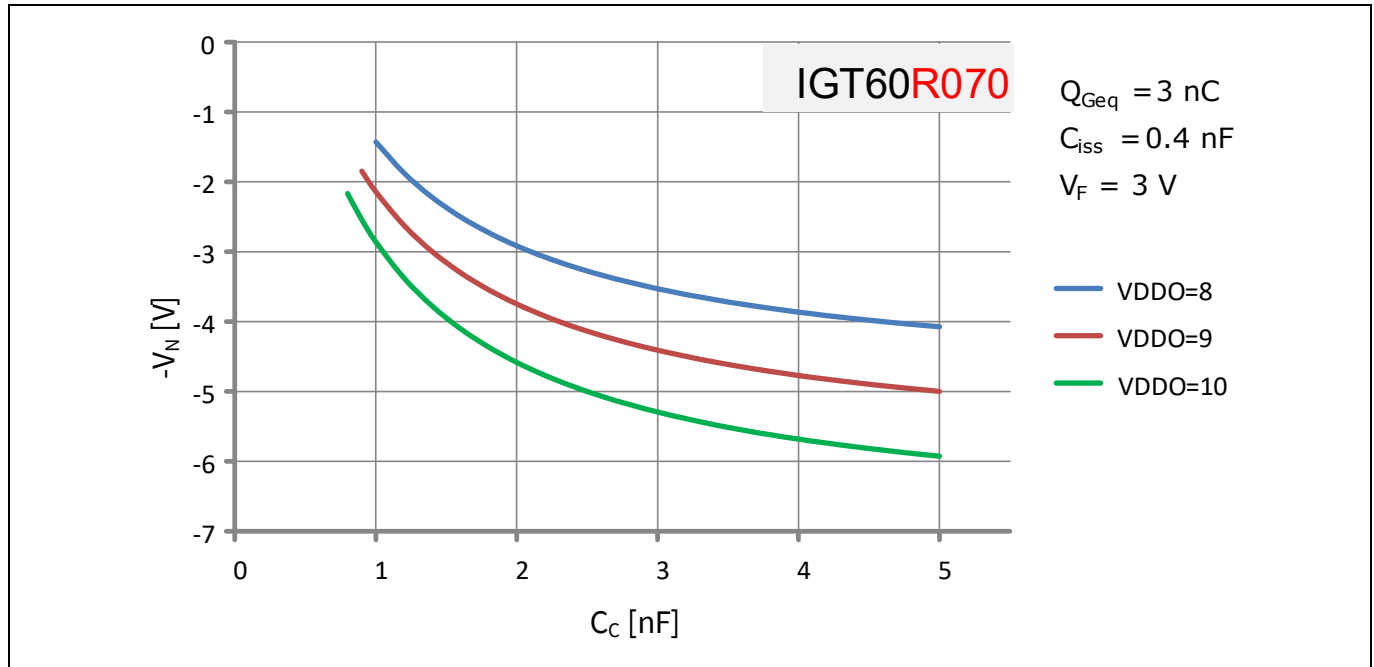

**Figure 17** Typical application circuit for 2.5 kW GaN "totem-pole" PFC
**Figure 17** depicts a typical application for CoolGaN™ switches in a so-called "totem-pole" PFC. It consists of a 70 mΩ GaN half-bridge controlled by two GaN EiceDRIVERS; the diode functions indicated in the power path are usually realized with low- $R_{DS(on)}$  MOSFETs operating as synchronous rectifiers. 2.5 kW of power can be handled at very high efficiency (above 99%).
The topology in **Figure 17** differs from standard PFCs mainly by the fact that both GaN transistors are used alternately in switch and diode operation mode, depending on the polarity of the input voltage. This eliminates the need for rectifying the input voltage and therefore avoids a significant loss contributor. Such a topology cannot be realized with MOS-switches due to their inherent body diode and the associated large recovery charge.
The application circuit of Figure 17 uses different gate resistors for the "on" and "off" gate loops by introducing resistor  $R_{off}$  and (Schottky-)diode SD. The values of  $R_{tr}$  and  $R_{off}$  define the respective peak gate currents and thus switching times according to Equation (2.2). Due to the basic trade-off between switching time and inductive voltage overshoot, parasitic power and gate loop inductances have a strong influence on the optimum values of the gate resistors. For a 70 mΩ CoolGaN™ switch they are typically in the 5 to 20 Ω range for  $R_{tr}$ , whereas 2 to 5 Ω are a reasonable choice for  $R_{off}$ .
Finally, also indicated in Figure 17, the 330 pF capacitance in parallel with resistor  $R_{t1}$  on the high-side helps to minimize the variation of  $t_1$  as explained in Chapter 3.6.
Figure 17	updated